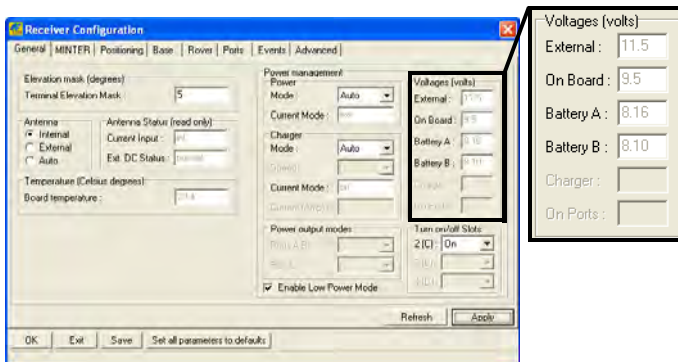

Figure 2-10. View Voltages Information
- View the **Voltages** information (Figure 2-10 on page 2-13).